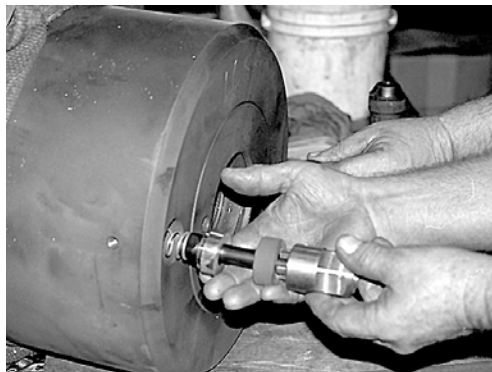

Figure 5-62. Removal/Installation Poppet Valve Assembly
- e. Remove the poppet assembly using removal/installation tool (P/N 127110); rotate tool counterclockwise, and then remove the poppet assembly and compression spring from the piston (see Figure 5-62).